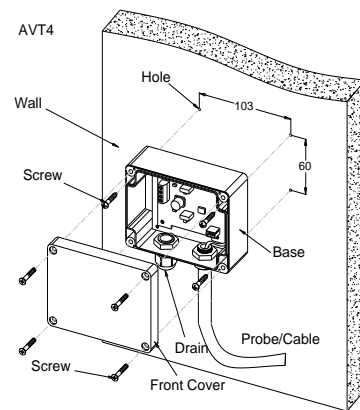

Fig.2
- AVT4's housing should be installed vertically on the wall, with the cable glands downward. Select a suitable place on the wall. It should be far away from any heat or cool sources. If needed, there should be a shield to prevent the sensor from direct sun light and rain. Drill 4 holes on the wall according to the dimensions (Fig.2). Install AVT4's base with the 4 screws after removing the front cover.